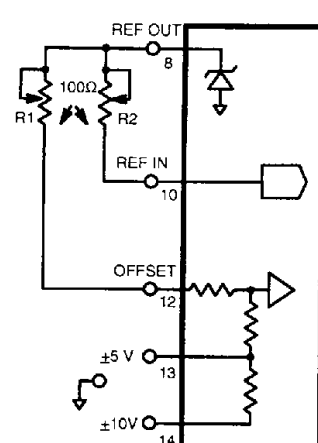

Figure 4.
1. To set \pm Fullscale: Connect MP674 as shown in *Figure 4*. Apply -4.9988 V to pin 13 (or -9.9976 V to pin 14) and adjust R1 for flicker between output codes 0000 0000 0000 and 0000 0000 0001. Then apply +4.9963 V to pin 13 (or +9.9927 V to pin 14) and adjust R2 for flicker between output codes 1111 1111 1110 and 1111 1111 1111.
2. To set Zero Transition and Gain: Connect MP674 as shown in *Figure 4*. Apply 0.0000V to pin 13 (for +5 V fullscale applications) or pin 14 (for +10 V fullscale systems) and adjust R1 until the output code flickers between 0111 1111 1111 and 1000 0000 0000. Then apply +4.9963 V to pin 13 (or +9.9927 V to pin 14) and adjust R2 for flicker between output codes 1111 1111 1111 and 1111 1111 1110.